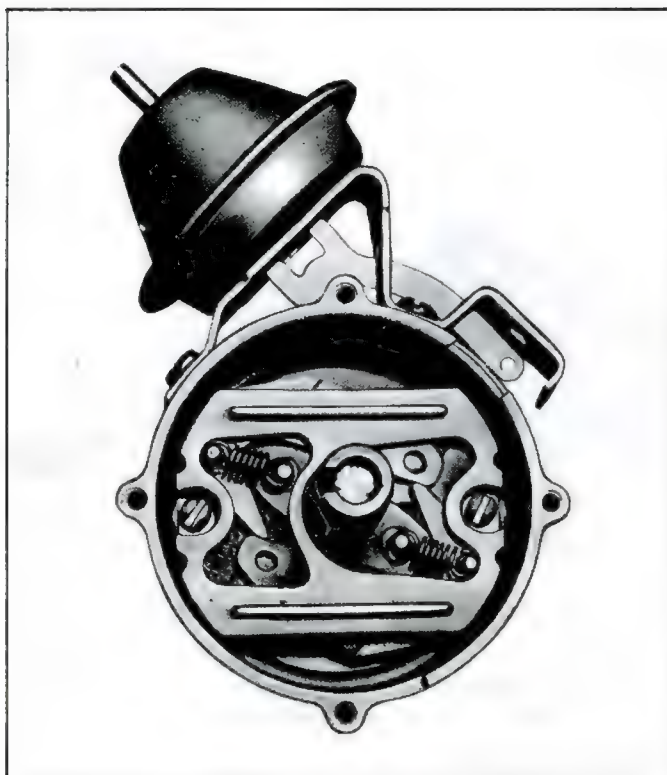

Fig. 7i—Weights, Weight Cover Installed
2. Install weights on their pivot pins, replace weight springs. Install weight cover and stop plate (fig. 7i).